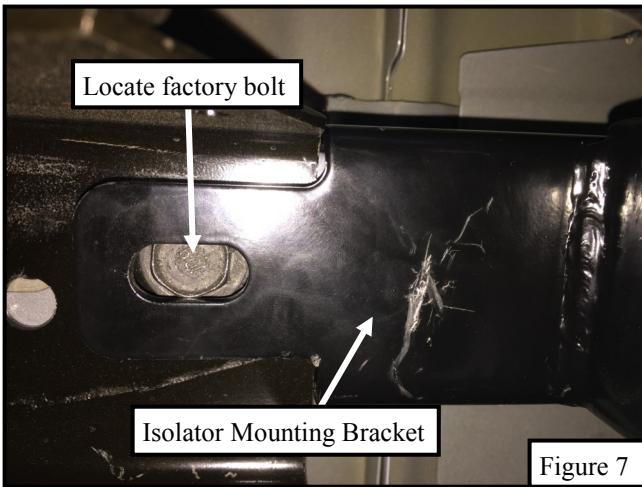

Figure 7
9. Locate the Isolator Mounting Bracket (Item 5/6) and start on either the passenger or driver and repeat installation for other side. Move to the rear of the rocker panel and locate location of factory bolt. See **Figure 7**.